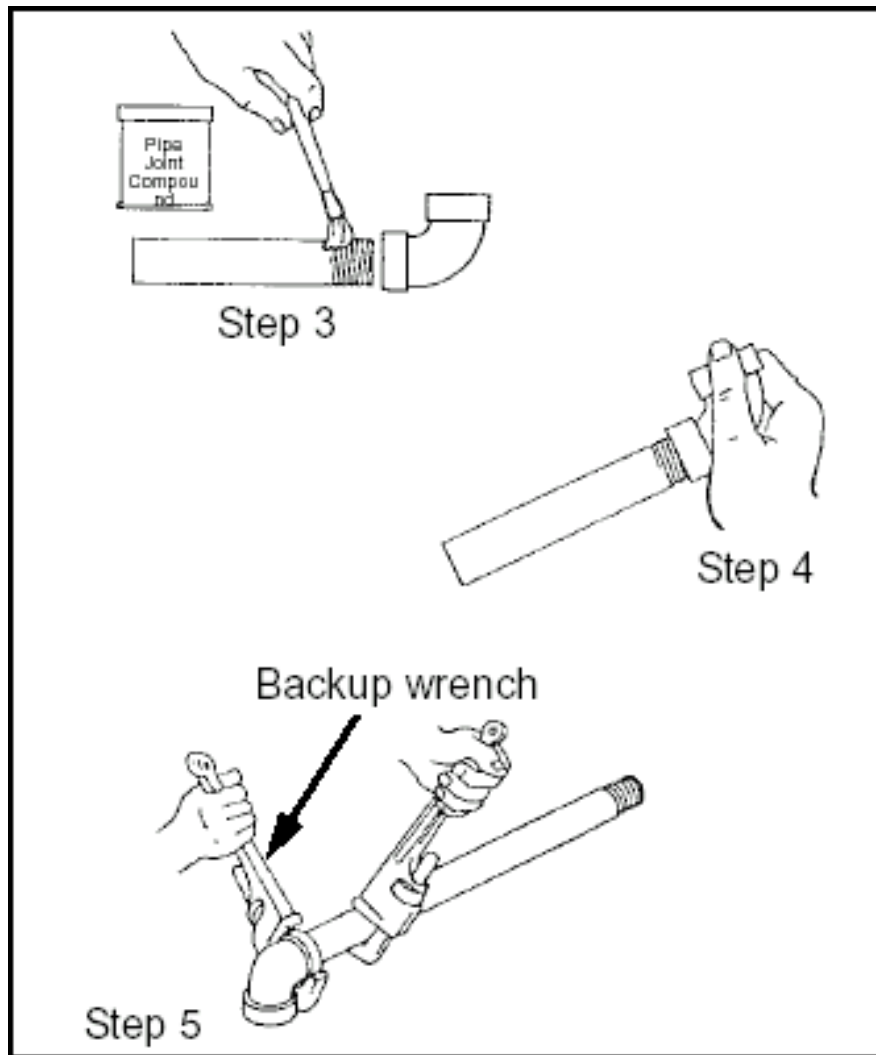

Figure 6-30. Joining Threaded Pipe
the vise. This ensures a good fit. The assembled pipe and fittings should then be screwed into the proper place in the installation. Use Figure 6-30 and the following joining steps:
Step 3. Apply pipe-joint compound or Teflon tape to the pipe threads only (Figure 6-30).
Step 4. Screw the fitting on, hand tight (Figure 6-30).
Step 5. Tighten the fitting using two pipe wrenches, one on the fitting (backup wrench) and the other on the pipe (Figure 6-30), provided no vise is available. The backup wrench keeps the fitting from turning.